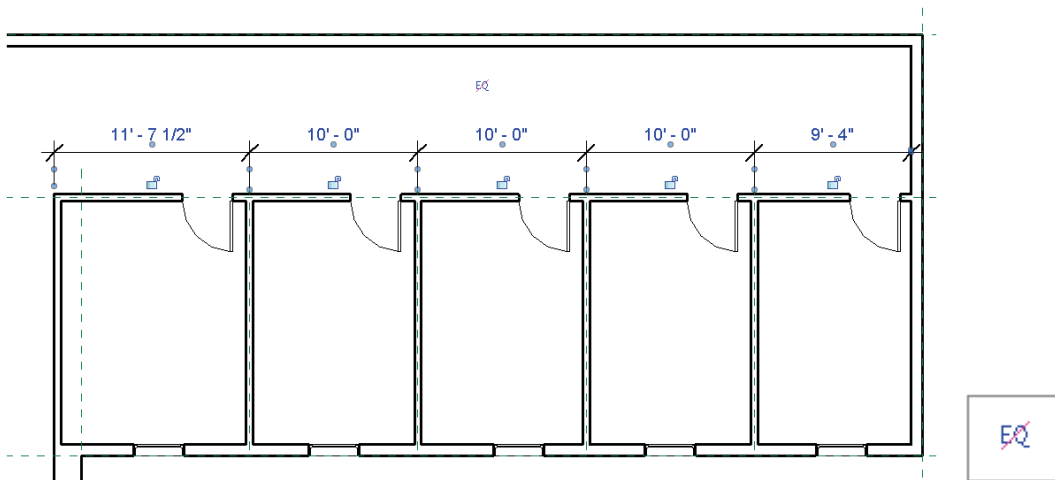

FIGURE 1.17 The dimensions of the interior walls
6. Move your mouse above the interior wall and click to place the dimension string in the view. The results should resemble Figure 1.17.